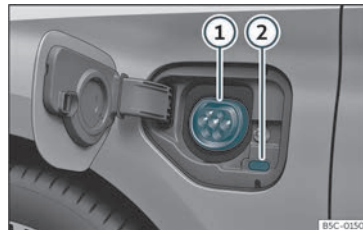

Fig. 189 Behind the battery charging cover on the front left-hand side: Charging socket
>>> Fig. 189
- With the vehicle unlocked, the battery charging cover opens when it is pressed >>> **Fig. 189**.